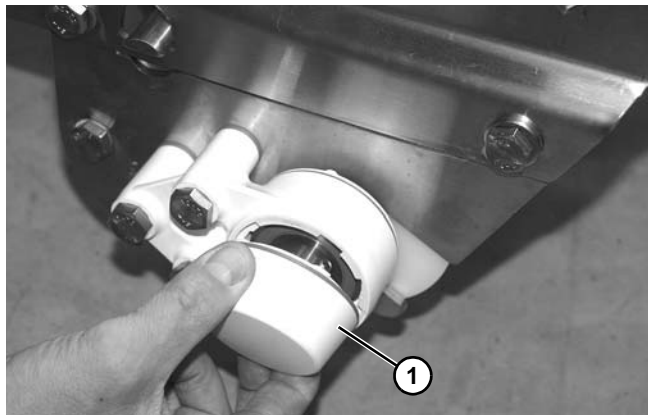

Figure 71
11. On opposite side, remove bearing cap (**Figure 71, item 1**).